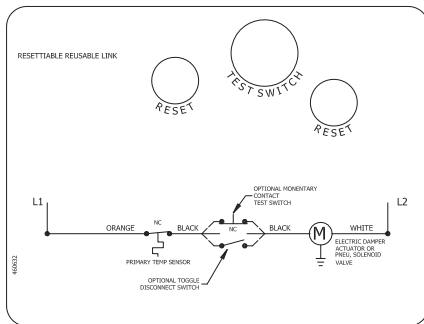

Figure 23: RRL Wiring
**RRL** - The RRL (resettable link device) incorporates a single thermostat. When the thermostat temperature is reached the sensor interrupts power to the actuator and the actuator's spring return mechanism causes the damper to close. Refer to **Figure 23** for wiring of the RRL thermostat.
## Ratings (Figure 23, 24, 25, & 26)